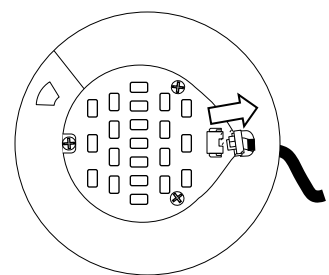

FIG. 6
- Detach the LED DRIVER QUICK-CONNECTOR from the LED TERMINAL BLOCK. (FIG. 6)
- Insert the new LED DRIVER QUICK-CONNECTOR to the TERMINAL BLOCK. (FIG. 6)